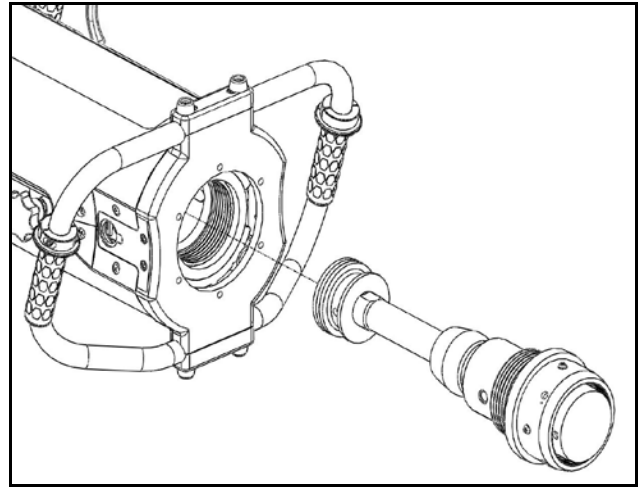

Figure 6 – Impactor Assembly Removal
5. Grasp the Impactor and slide the Impactor Assembly out of the tool (see Figure 6).